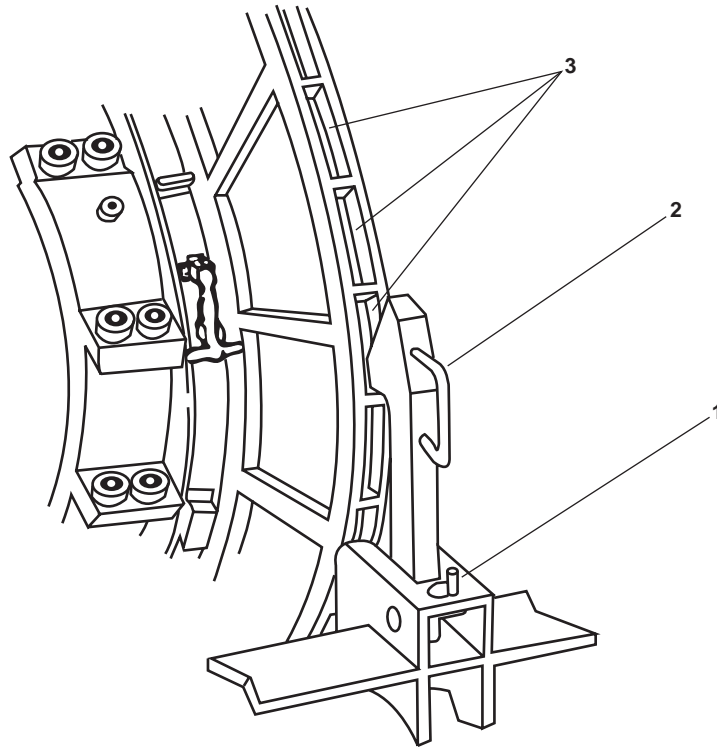

Figure 1. Mechanical Dog Operation
2. Remove the quick release pin (figure 1, item 1).
3. Engage the dog (figure 1, item 2) in the ratchet teeth (figure 1, item 3).
7. Install the quick release pin (figure 1, item 1).
2. Ensure that the dog (figure 1, item 2) is not engaged.